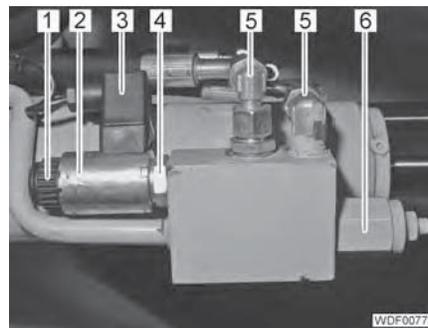

Fig. 204 Load holding control valve
Do not adjust the pressure control valve (Fig. 204,6).
- Detach the hydraulic lines (Fig. 204,5) to allow the residual pressure to escape.
- Unscrew the screw (Fig. 204,3) on the connector.
- Unscrew the nut (Fig. 204,1).
- Pull off the coil (Fig. 204,2).
- Unscrew the valve insert (Fig. 204,4).
- Plug the coil (Fig. 204,2) onto the valve insert (Fig. 204,4).
- Screw the nut (Fig. 204,1) onto the valve insert and tighten it hand-tight.
- Attach the plug (Fig. 204,3) onto the coil and secure it with a screw.
- Tighten the hydraulic lines (Fig. 204,5).
- Unscrew the pressure control valve (Fig. 204,6).